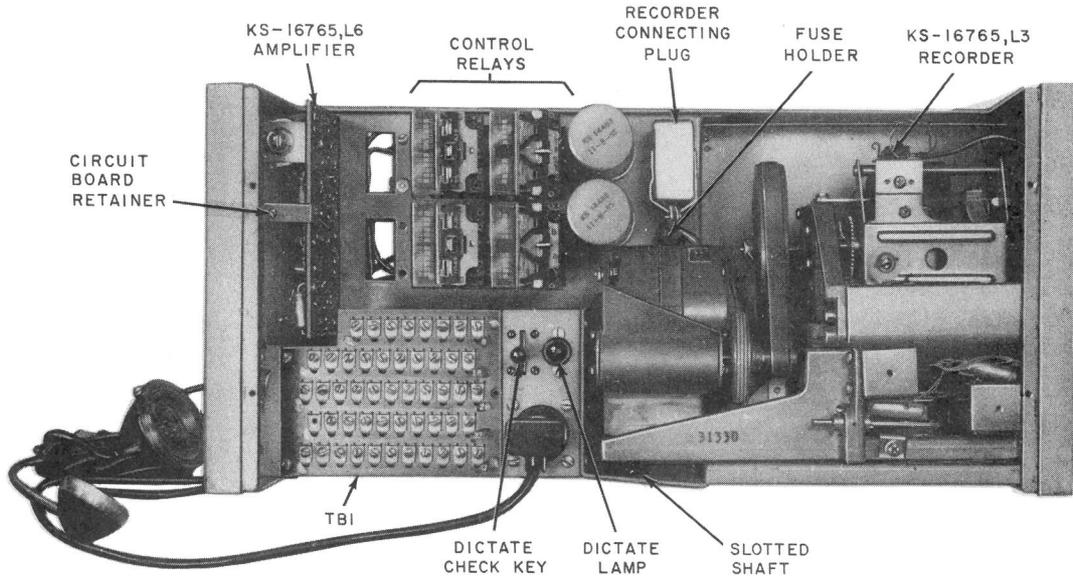

Fig. 4—KS-16765, List 2 Announcement Set, Front Cover Removed
- (c) Local control using the dictate-check key on the announcement set with an operator telephone set plugged into the telephone jacks (Fig. 4).
| Recorder | KS-16765, List 3 | Announcement Mechanism | Fig. 4 |